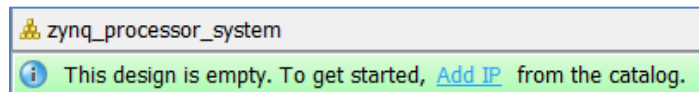

Figure 51: Add IP to the Design
4. Click **Add IP** at the top of the diagram area (FIGURE 51).